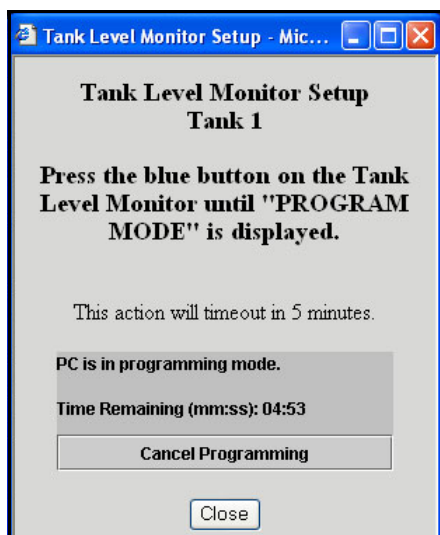

FIG. 77 Tank Level Monitor Setup
1. In the Action column of the tank record you want to program, click **Program**. The Tank Level Monitor setup timeout notice appears. See FIG. 77.